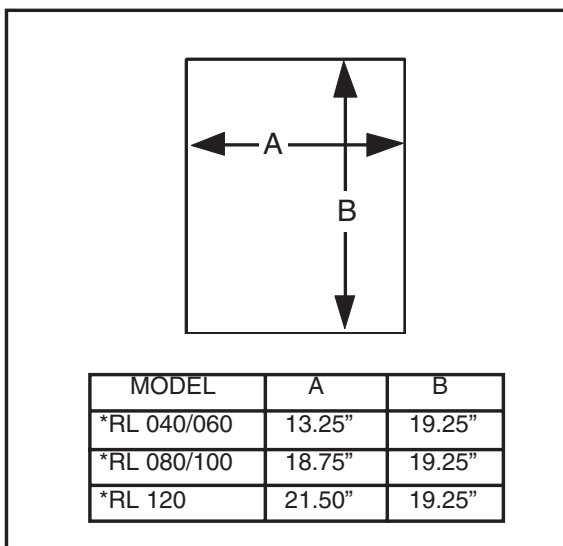

Figure 5. Opening for Concrete Slab
1. Construct a hole in the floor per the dimensions in Figure 5.